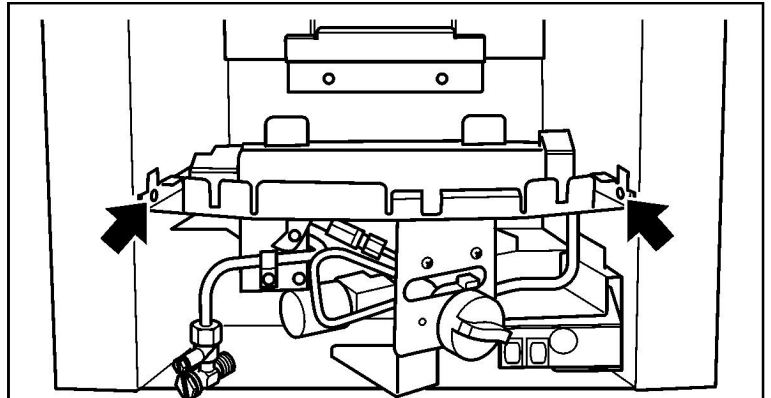

Figure 45. Burner securing screws
4. Remove the two burner securing screws (See figure 45). It may be necessary to remove the fascia.